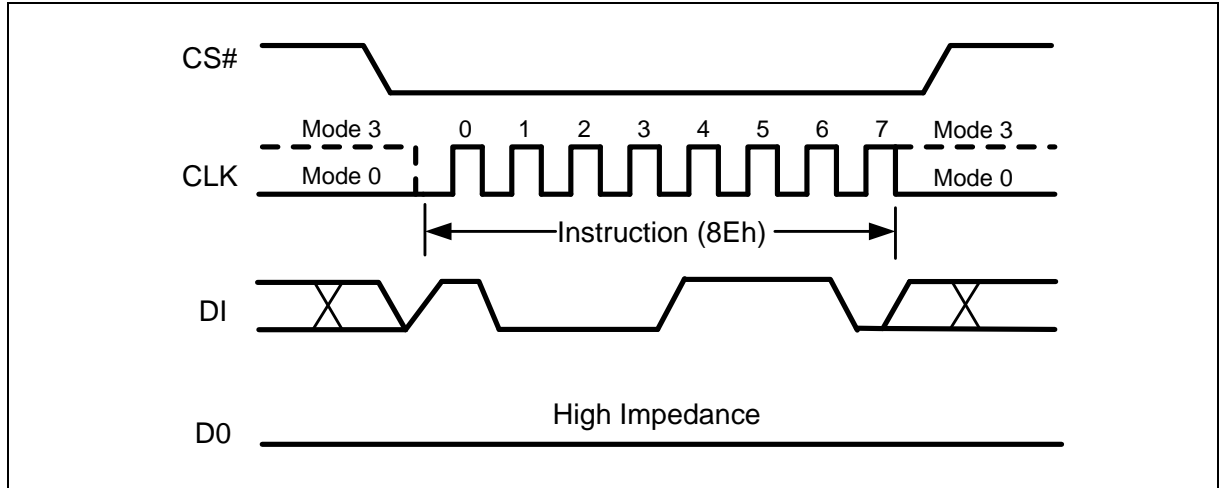

Figure 85 TAG Write enable Instruction
The Write Enable (WREN) instruction (Figure 85) sets the Write Enable Latch (WEL) bit in the TAG Status Register to a 1. The WEL bit must be set prior to every Tag Write and tag Write Status Register instruction. The Write Enable (WREN) instruction is entered by driving CS# low, shifting the instruction code “8Eh” into the Data Input (DI) pin on the rising edge of CLK, and then driving CS# high.